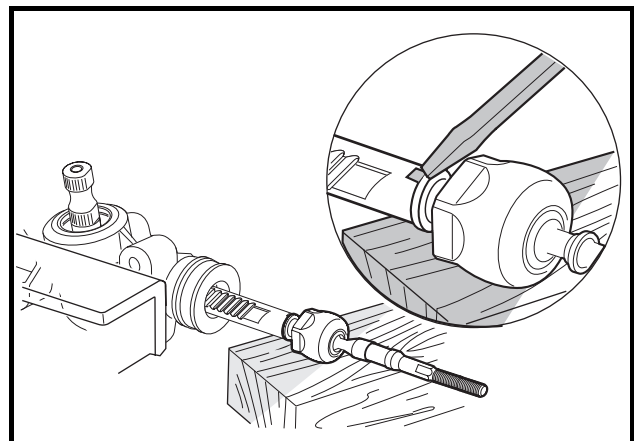

Figure 7-11 Install Ball Joint
7. Install the ball joints (8) onto the rack (18) by securing the rack in a vise using wood blocks between the rack and the jaws of the vise to protect the rack from damage. Tighten the ball joints to 60 ft-lb (81 N·m).
8. Tap a flange into the notch on the rack (**Figure 7-11, Page 7-9**).